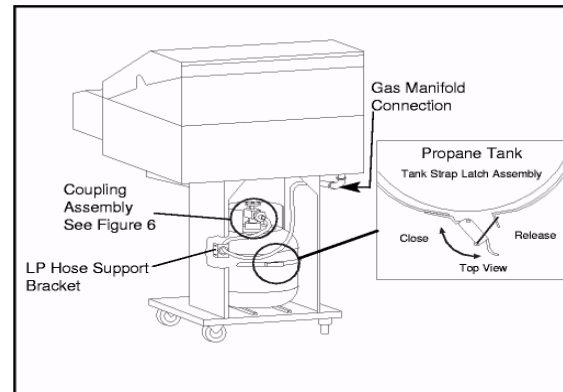

Figure 7. Gas Tank Placement-Sterling II FR Pedestal
4. Place the gas cylinder in the space provided in the base and secure the tank with the tank strap latch assembly. (See Figure 7 or 8) Remove the protective caps from Cylinder Valve Outlet and Nipple, as necessary.